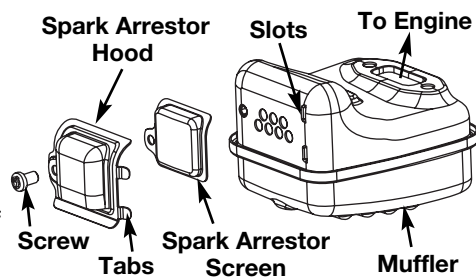

Fig. 19
6. Place the spark arrester plate on top of the spark arrester screen with the raised side up and the opening facing toward the engine (Fig. 19)
7. Place the spark arrester hood on top of the spark arrester plate with the “raised” side up and the opening facing AWAY from the engine (Fig. 19). Verify that the exhaust will be directed AWAY from the engine.
2. Locate the muffer, **but do not remove it**. Find the screw on the bottom of the muffer (Fig. 19). This screw holds the Spark Arrester Hood Assembly and the spark arrester screen to the bottom of the muffer. Remove this screw using either a Torx T20 or flat blade screwdriver.